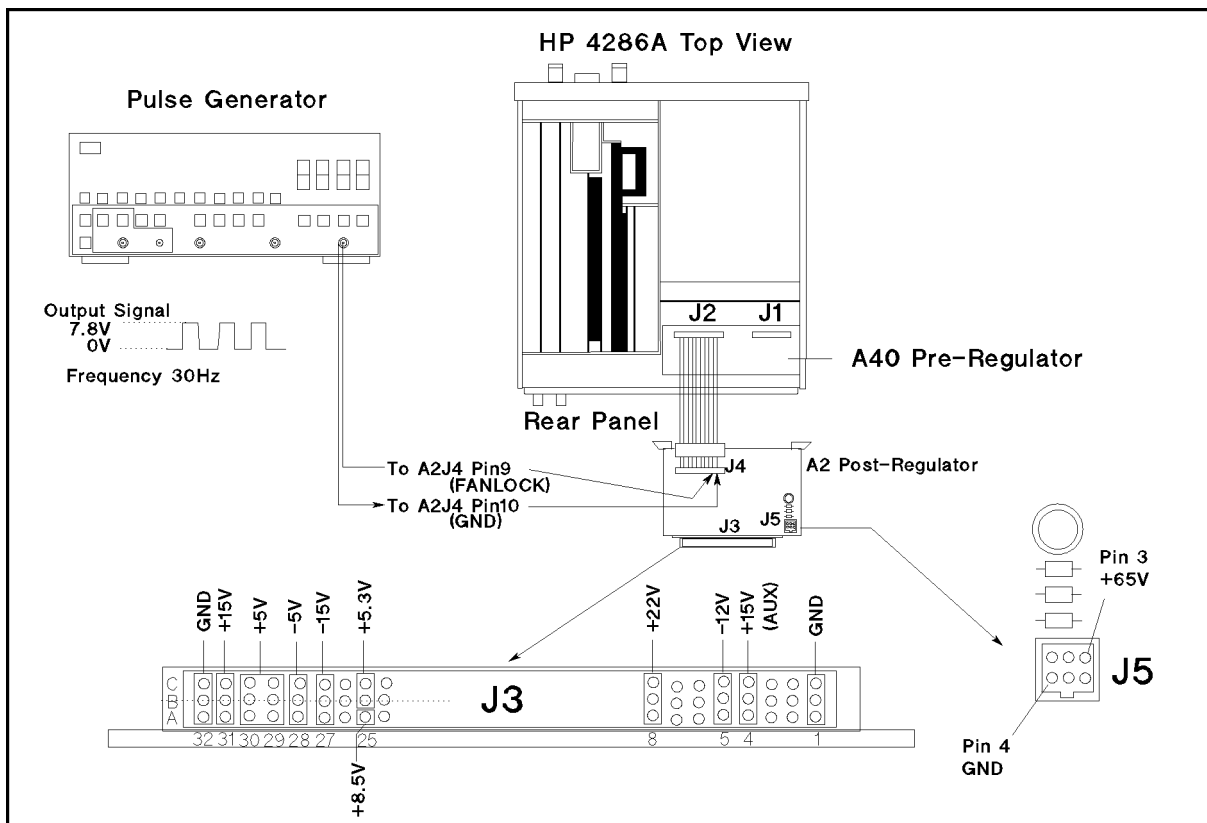

Figure 5-11. A2 Output Voltage Measurement Setup
- d. Reconnect the cable between the A2J4 and the A40J2 as shown in Figure 5-11.
- e. Connect the pulse generator to the A2J4 as shown in Figure 5-11.
- h. Measure the A2 output voltages at the A2J3 pins and A2J5 pins using a voltmeter with a small probe. See Figure 5-11 and Table 5-3 for the power supplies, A2J3 and A2J5 pins, and the limits.